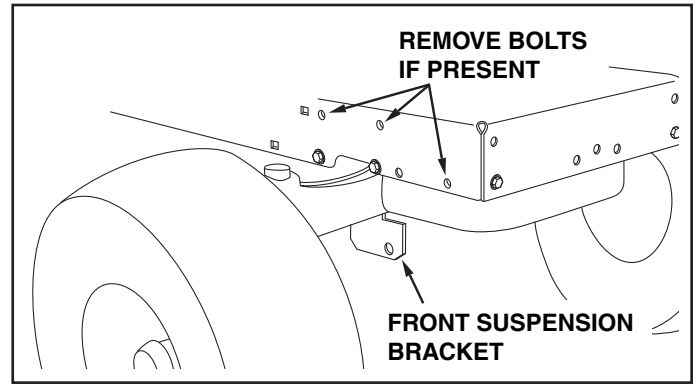

FIGURE 22 RIGHT SIDE VIEW
If your tractor resembles figure 22, start with step 23.
STEP 23: (SEE FIGURE 22)